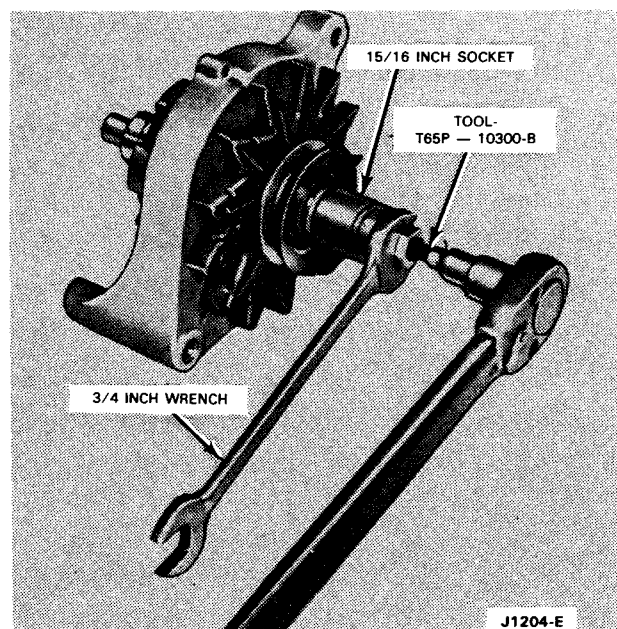

FIG. 18 Pulley Removal
9. Remove the drive pulley nut with the tool shown in Fig. 18; then, pull the lock washer, pulley, fan, fan spacer, rotor, and rotor stop from the rotor shaft.
5. Position the front housing, fan, spacer, fan, pulley, and lock washer on the drive shaft and install the retaining nut. Tighten the retaining nut to the specified torque with the tool shown in Fig. 18.